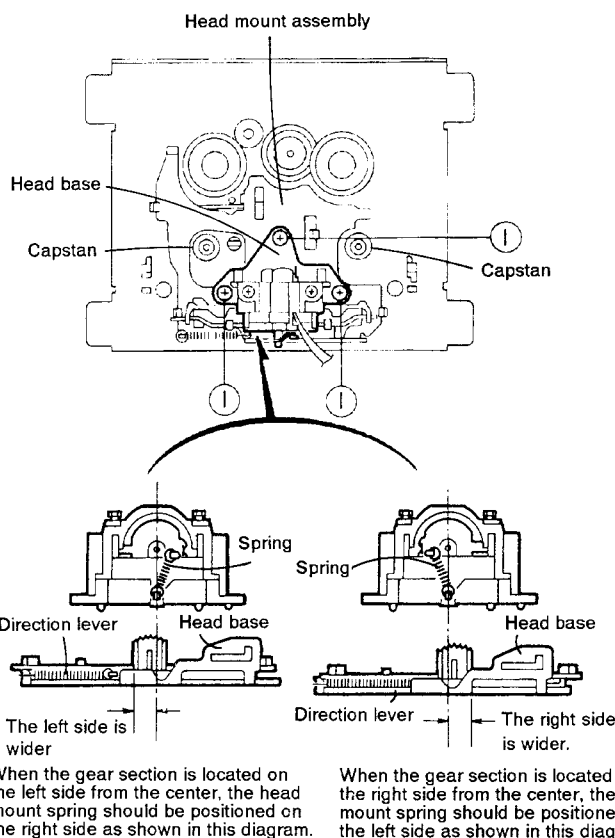

Fig. 5-39
■ Head Mount Assembly (See Fig. 5-39)
1. Remove the three screws (1) retaining the head mount assembly.
- At the time of assembly, combine the gear section of direction lever and the head mount gear as shown in Fig. 5-39.